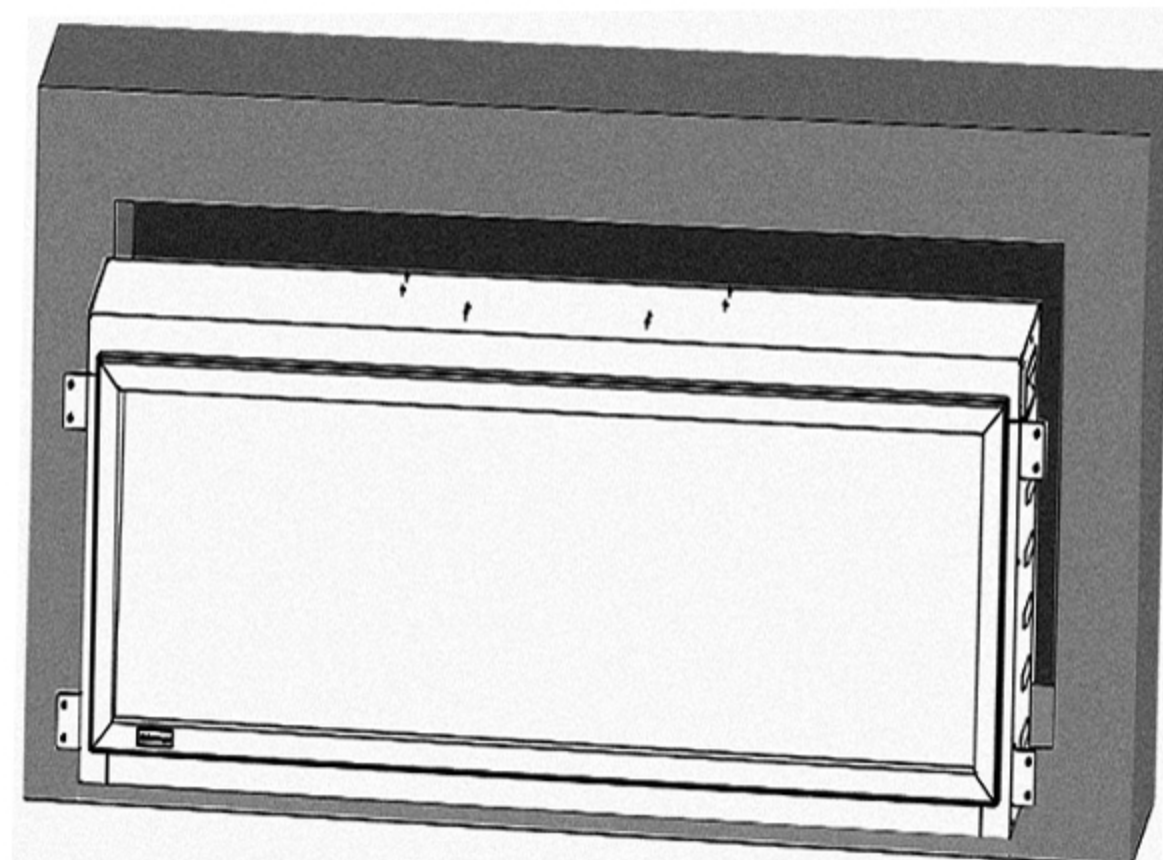

Figure 2
1. Make sure that the main power switch is turned off, and then plug the power plug into the wall socket, place the fireplace into wall framing and use framing screws to secure the side brackets to wall (see Figure 2)